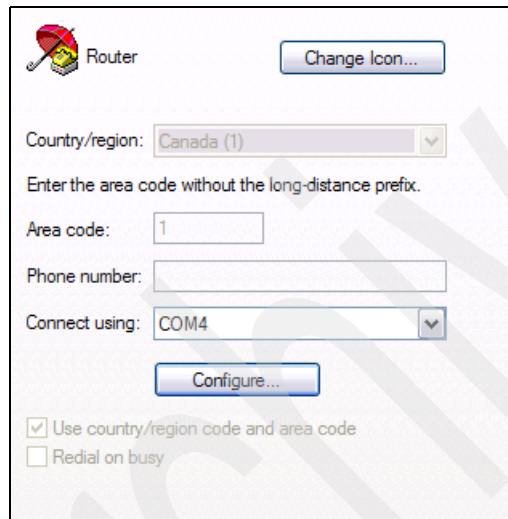

Figure 6-69 Selecting the correct COM port
2. Start HyperTerminal from the PC or mobile computer. Select the appropriate COM port that is associated to the serial connection (Figure 6-69).